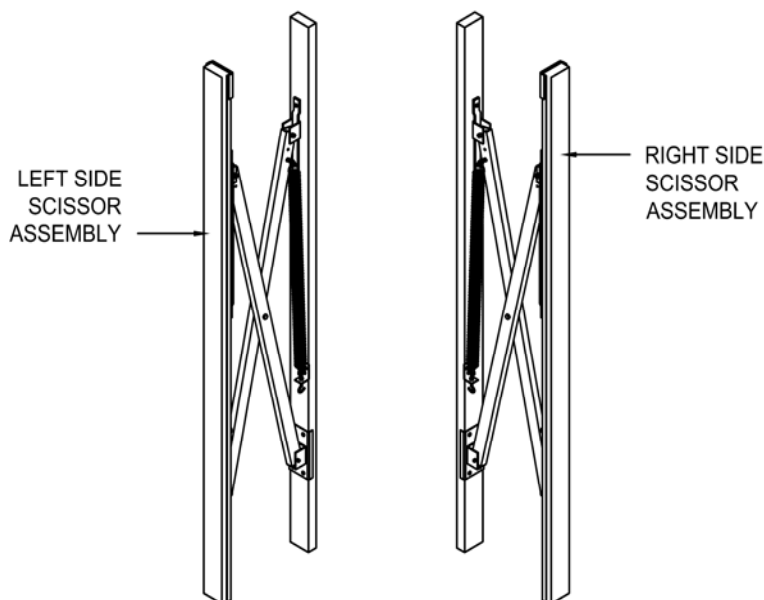

FIG. 2
- a. **Measure and mark center** of dock door opening (Figure 2).
3. **Determine left and right vertical frames:** The vertical frame should be mounted in a manner which allows the spring assembly to be positioned at the top inside edge "Close to the door opening" (fig. 2).